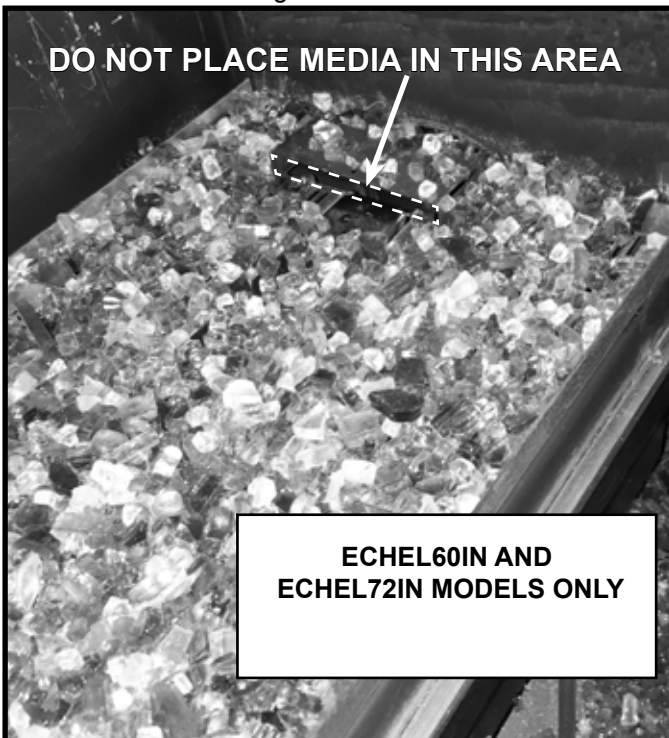

Figure 7.
**DO NOT** place media in front of opening on right side of the burner (60 and 72 only). Flame appearance will be affected. See Figure 7.